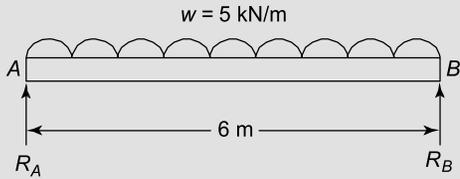

Figure 7.40
**Problem 8.** Determine expressions for the bending moment and shearing force diagrams for the simply supported beam of Figure 7.40. The beam is subjected to a uniformly distributed load (UDL) of 5 kN/m, which acts downwards, and it is spread over the entire length of the beam.